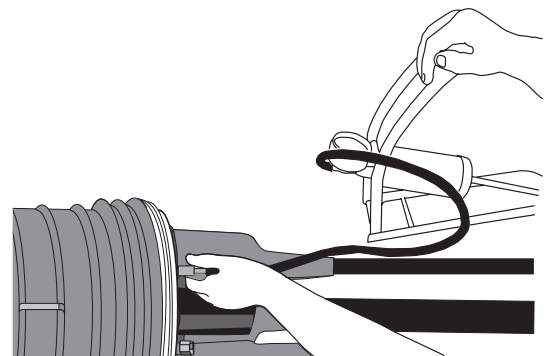

Figure 23
- Inject 12 to 14 psi of air into the closure using a hand pump (Figure 23). Check pressure after each 25 pumps.